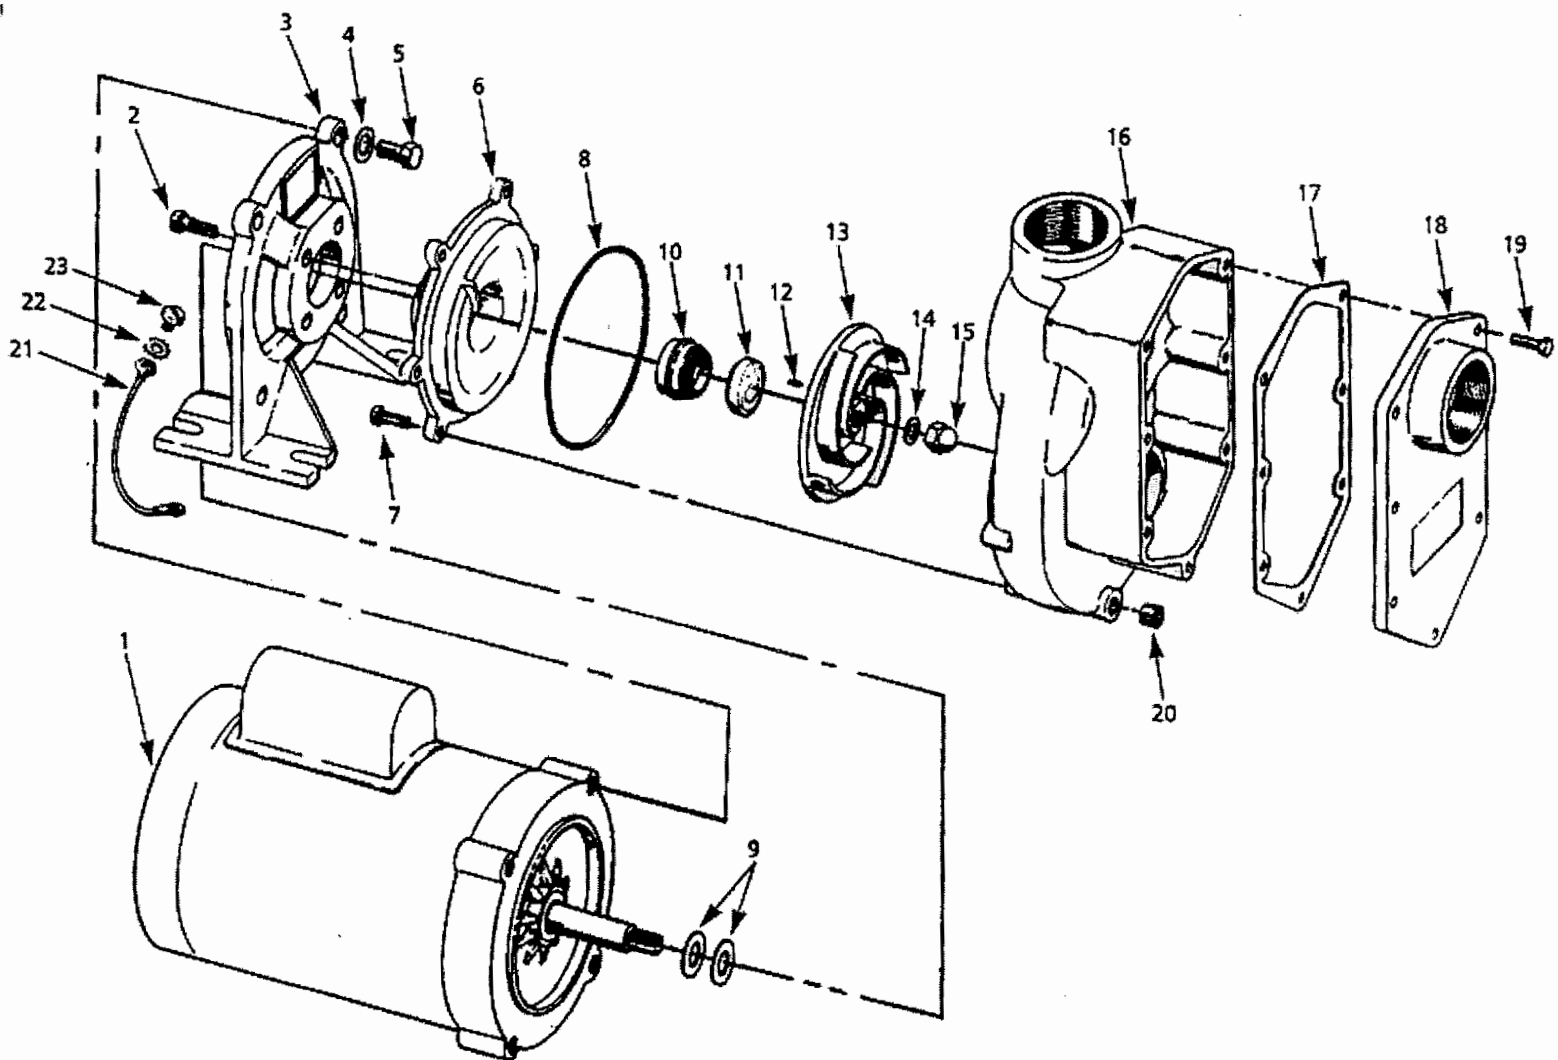

Figure 4-8. Grey Water Pump Assembly
a. Replace (Refer to Figure 4-8)
- (14) Install (4) bolts on adapter plate.
- (15) Install impeller on motor shaft.
- (16) Install pump housing.
- (17) Set motor and pump back on shock mounts.
- (18) Install piping and bolt back flanges.
- (19) Connect wiring as tagged.
- (20) Install terminal box cover.
- (21) Open suction and discharge valves.
- (22) Turn on power and test for operation.
b. Repair (Mechanical Seal, Refer to Figure 4-8)